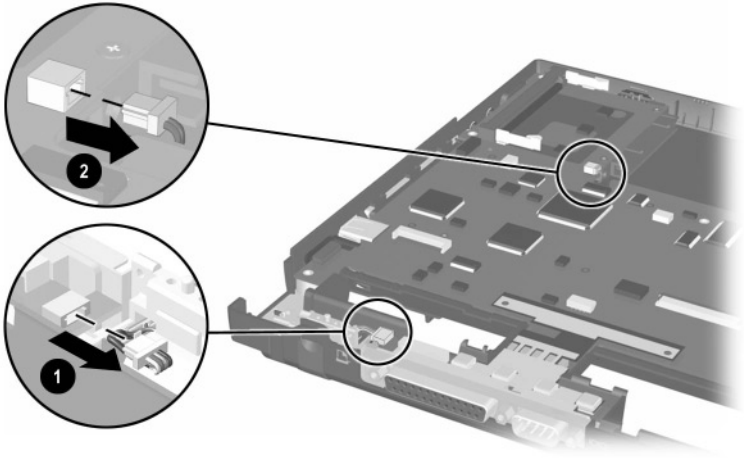

Figure 5-33. Disconnecting the External Battery Terminal and Speaker Cables from the System Board
12. Disconnect the external battery terminal ❶ and speaker cables ❷ from the system board (Figure 5-33).